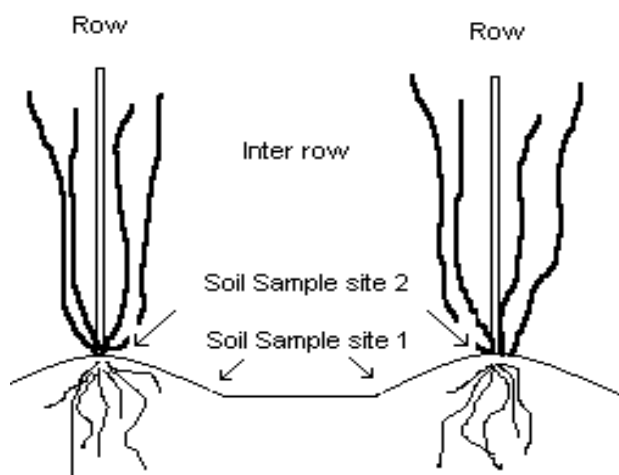

Figure 2. Sampling locations for raspberries
Raspberries: take pairs of samples (1) and (2) (**Figure 2**):